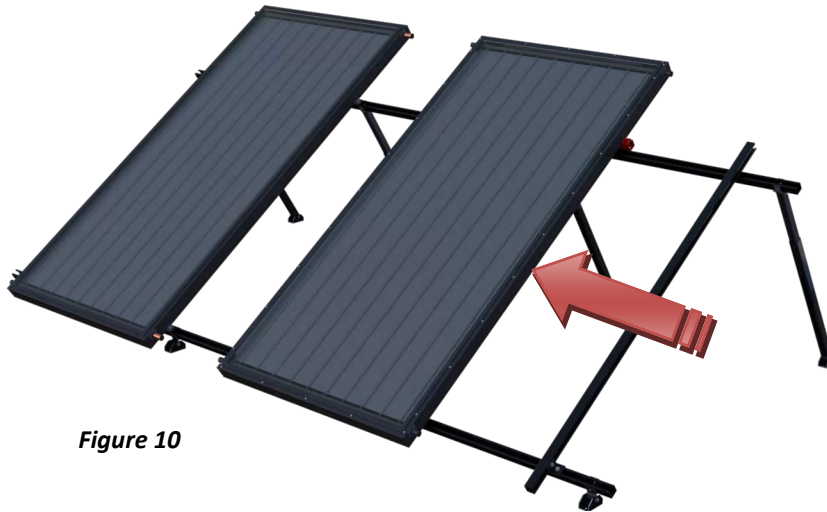

Figure 10
1. Slide Collector into position while aligning header Unions. As shown in *Figure 10*.
3. With the Collector in position install four (4) C-SSN, Collector Mounting Assemblies. Torque to 19 ft*lbs (26 N*m).